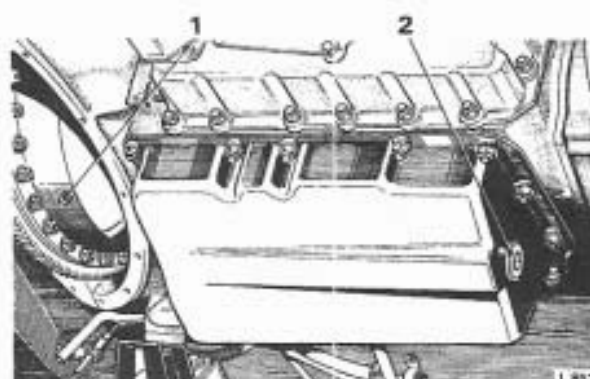

FIG. T6 DRAIN PLUGS
- 5 Place the container under the drain plug; remove the plug and drain the oil. Figure T6 shows the position of both drain plugs. If the car has covered only a low mileage since its last gearbox oil change and the oil is drained to facilitate some minor repair e.g. oil leak or sticking valve, the existing oil may be used again. The oil must be drained into a clean container